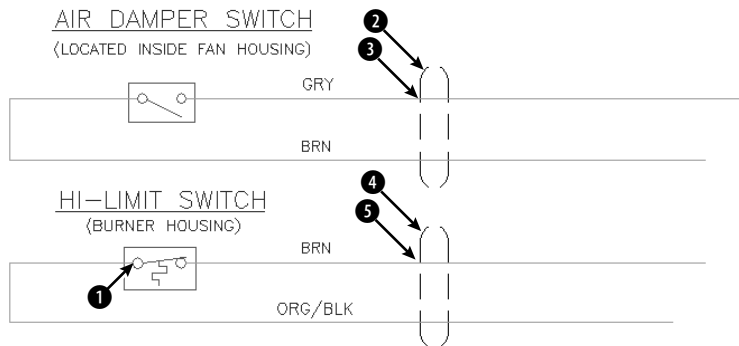

**Figure 18-11:** The electrical schematic has several symbols that would be useful as blocks.
- 2. Save the file as `ab18-04.dwg` in your `AutoCAD Bible` folder. This is a portion of an electrical schematic, as shown in Figure 18-11. OSNAP should be on. Set running object snaps for endpoint, midpoint, quadrant, and intersection.
3. Choose Make Block from the Draw toolbar. In the Name text box of the Block Definition dialog box, type **hl switch**. Choose Select Objects. Use a selection window to select the entire hi-limit switch box (not including the text labels). Right-click to end selection. Click Pick point in the Base point section of the dialog box. Use the Quadrant object snap to pick the left quadrant of the left circle in the switch, at ❶ in Figure 18-11. Choose Retain in the Objects section. Click OK. The objects in this block were created on the Object layer, which is red with a continuous linetype. The color, linetype, and lineweight are set to ByLayer.
6. Use a selection window to select the top conduit symbol at ❷ in Figure 18-11 (it consists of four objects). (It is currently on the Conduit layer, which is black and has a linetype of Hidden2.) Use the Color Control drop-down list to set the color to green. Use the Linetype Control drop-down list to set the linetype to Hidden2. Choose Make Block from the Draw toolbar. In the Name text box, type **top conduit**. The dialog box tells you that four objects are selected. Click Pick Point. Use the Intersection object snap to pick ❸. Click OK. The conduit appears green with the Hidden2 linetype.
7. Use a selection window to select the bottom conduit at ❹. (It is currently on the Conduit layer, which is black and has a linetype of Hidden2.) Use the Layer Control drop-down list to set the layer to 0. Choose Make Block from the Draw toolbar. In the block Name text box, type **bot conduit**. The dialog box tells you that four objects are selected. Click Pick point. Use the Intersection object snap to pick ❺. Click OK. The conduit appears black with a continuous linetype.